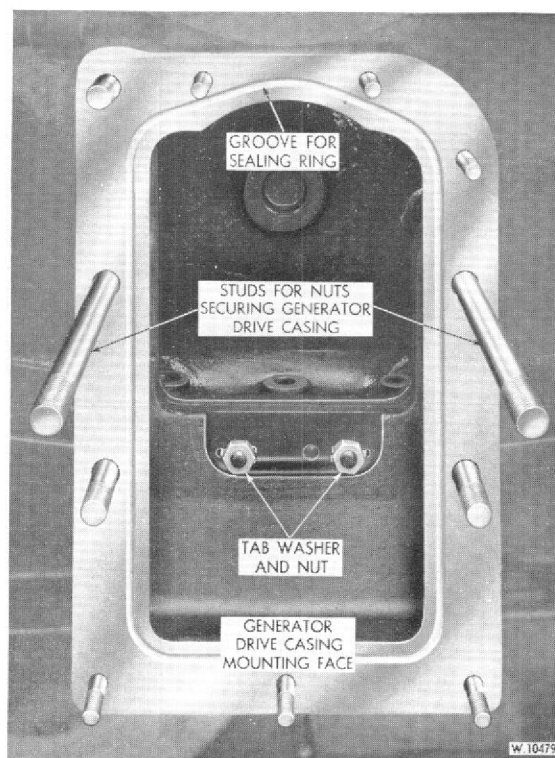

Fig. 33. Internal nuts and tab washers which secure the top wheelcase to the air-intake.
2. Remove the plain nuts and tab washers which secure the wheelcase to the two studs in the generator drives wheelcase recess, Fig. 33.